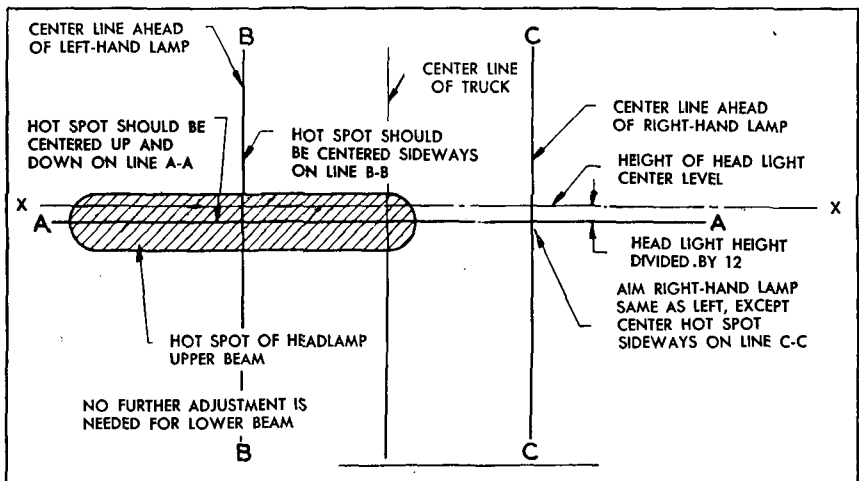

Figure 98.1 Head light adjustment.
e. (Added) AIMING ADJUSTMENT PROCEDURE (fig. 98.1).
- (1) Place unloaded truck on a smooth horizontal surface so that headlights are 25 feet away from a vertical wall or other vertical surface. The center line of the truck must be at right angles to the vertical surface.
- (2) Measure the height of the headlight center from the floor, and mark a horizontal line at this height on the vertical surface (line X—X, fig. 98.1).
- (3) Mark line A—A, below X—X, at one-twelfth the distance between line X—X and the floor.
- (4) Draw vertical lines B—B and C—C directly in front of each headlight.
- (5) Turn on headlights at main light switch and select high beam with dimmer switch. It is not necessary to make adjustment on low beam.
- (6) Loosen headlight mounting bolt nut on each headlight. Cover one headlight and aim the other so that the center of the zone of greatest intensity (hot spot) is centered at the intersection of lines A—A and B—B or A—A and C—C, depending on which headlight is being aimed. Tighten the headlight mounting bolt nut securely, making sure adjustment is not disturbed. Aim the other headlight in the same manner.
- (7) After each headlight is aimed separately, check both headlights simultaneously for conformity to line A—A.